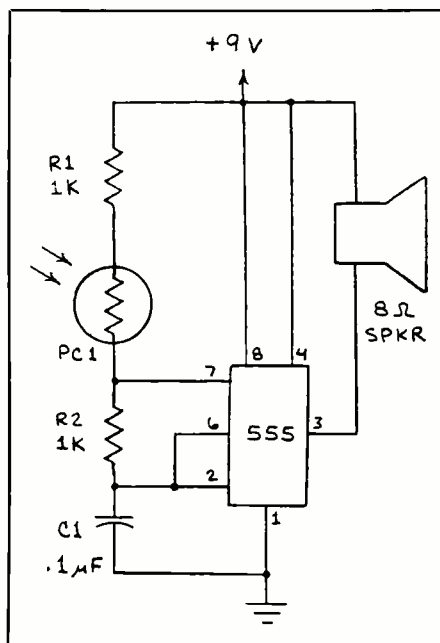

Fig. 9. A light-dependent oscillator built around a 555 timer IC.
• **Light-Dependent Oscillator.** The frequency of virtually any oscillator can be changed in response to light by including a photoresistor in the RC portion of the circuit. How this can be accomplished with a simple audio-frequency oscillator made from a 555 timer chip is illustrated in Fig. 9. Many different photoresistors can be used for *PC1*. Increase the capaci-